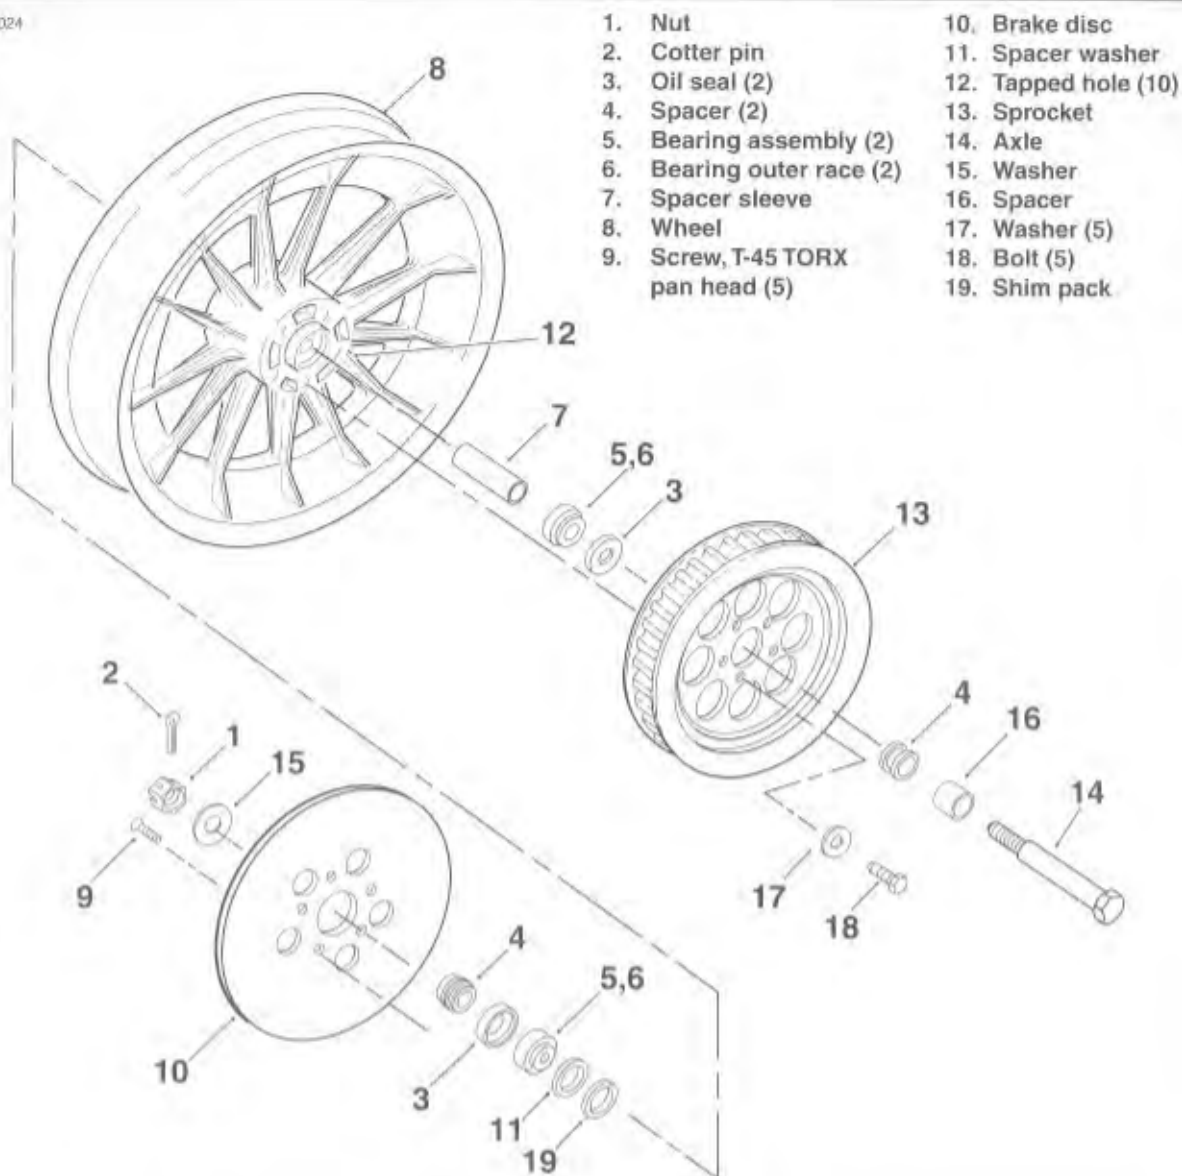
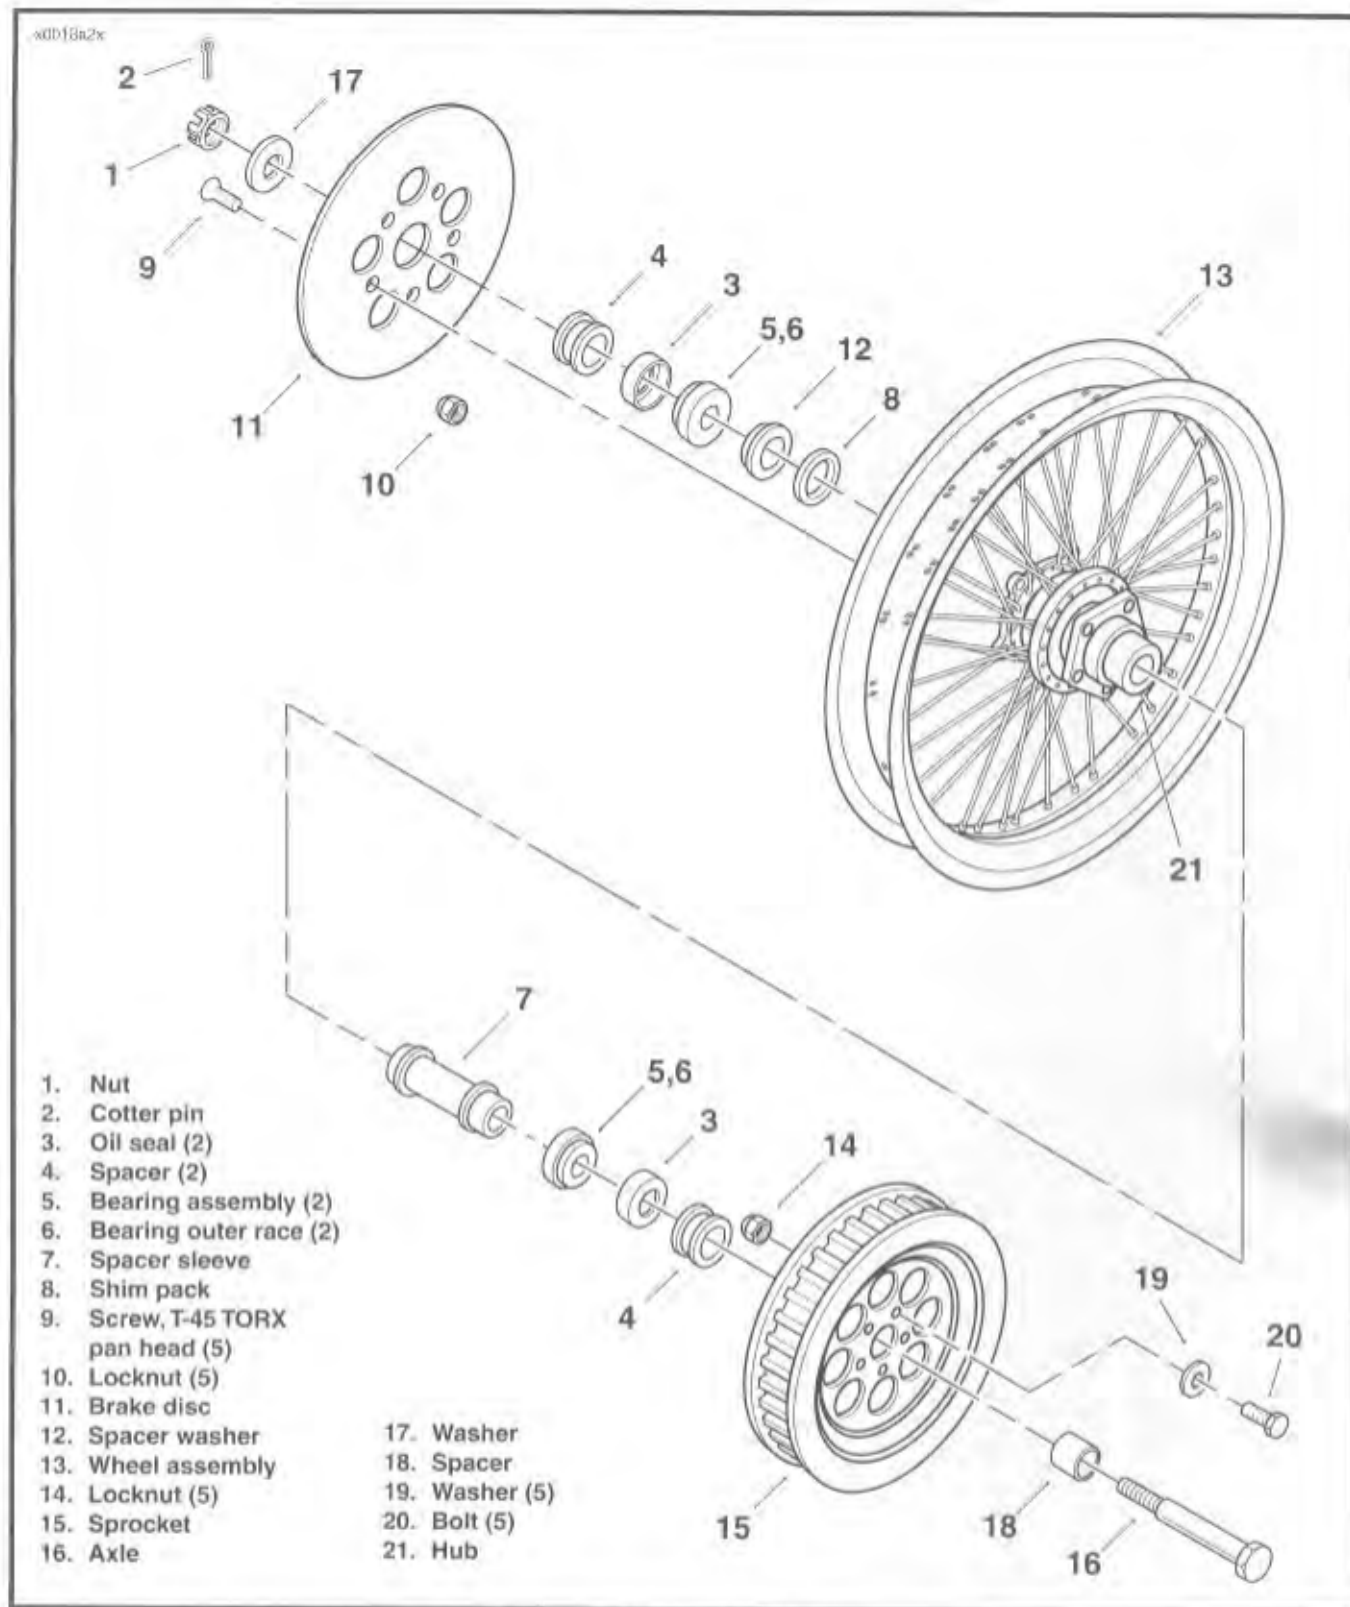

Figure 2-9. Cast Rear Wheel
Figure 2-10. Laced Rear Wheel
5. Remove spacer (16, Figure 2-9; 18, Figure 2-10) and rear wheel assembly.
Cast Wheel (Figure 2-9)
Laced Wheel (Figure 2-10)
2. Apply LOCTITE ANTI-SEIZE LUBRICANT to axle (14, Figure 2-9; 16, Figure 2-10). Insert axle through right side of rear fork, spacer (16, Figure 2-9; 18, Figure 2-10), wheel assembly, rear caliper bracket and left side of rear fork.
4. See Figure 2-9 and Figure 2-10. Mount a magnetic base dial indicator on the brake disc. Set the indicator contact point on the end of the axle. Move the wheel back as far as it will go. Holding the wheel in position, zero the dial indicator gauge. Move the wheel forward as far as it will go. Note the reading of the dial indicator. The lateral movement or end play must fall between 0.002 and 0.006 in. (0.05-0.15 mm). Repeat the procedure to verify the reading.
5. Remove the wheel and substitute thicker spacer shim(s) (19, Figure 2-9; 8, Figure 2-10) if the end play must be increased. Use thinner spacer shim(s) to reduce the end play. See the following table for the available spacer shim thicknesses.